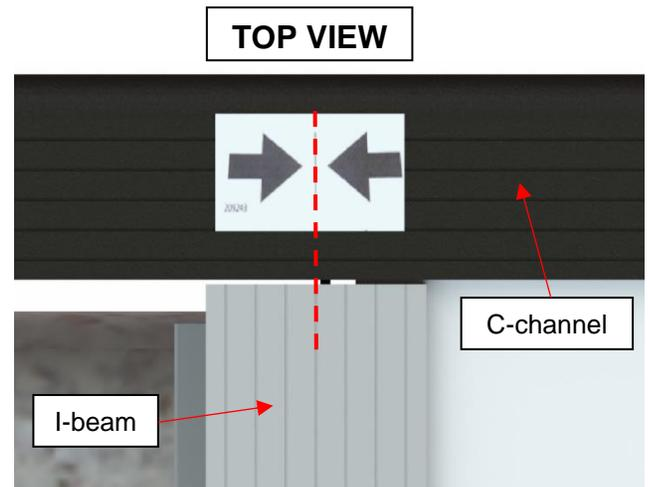
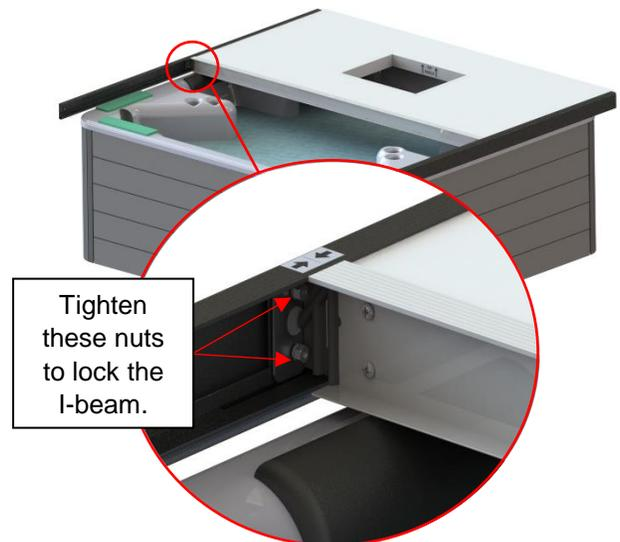

Figure 49
Figure 50
- 7) Once the I-beam is properly centered into the C-channels using the center label (Figure 49), lock it in place by tightening the four nuts and carriage bolts on both ends of the I-beam (two on each end). (Figure 50)